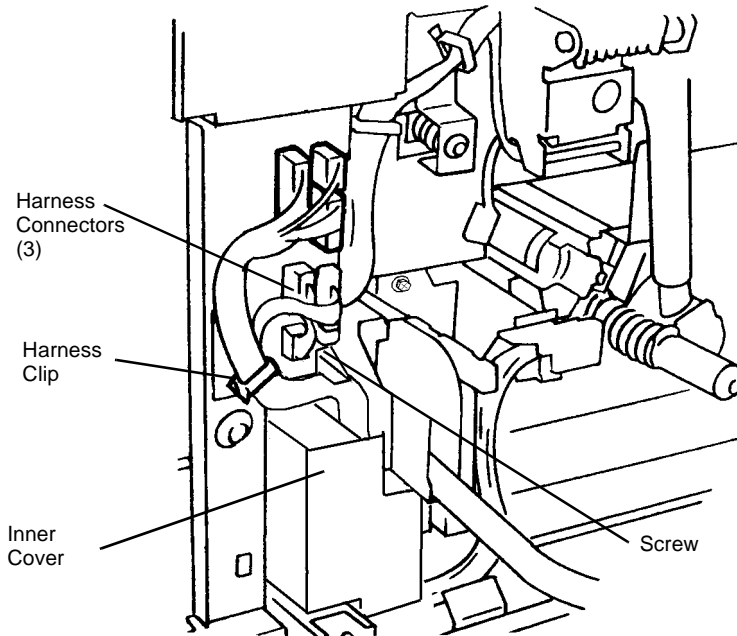

Figure 2 Disconnecting Developer Harnesses
10. Disconnect Developer Housing Harnesses (Figure 2).
- b. Disconnect Harness P/J's (3).